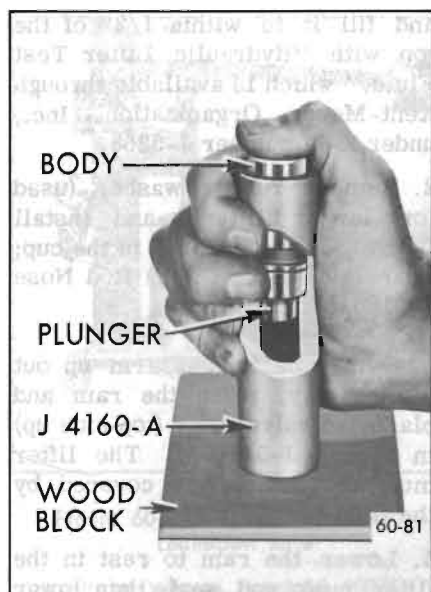

Figure 60-221—Removing Stuck Plunger With J-4160-A
6. If a plunger sticks in lifter body, place lifter in large end of Plunger Remove J-4160-A with plunger inward. While holding lifter with thumb, rap the open end of remover against a block of wood with just enough force to jar the plunger from body. See Figure 60-221.